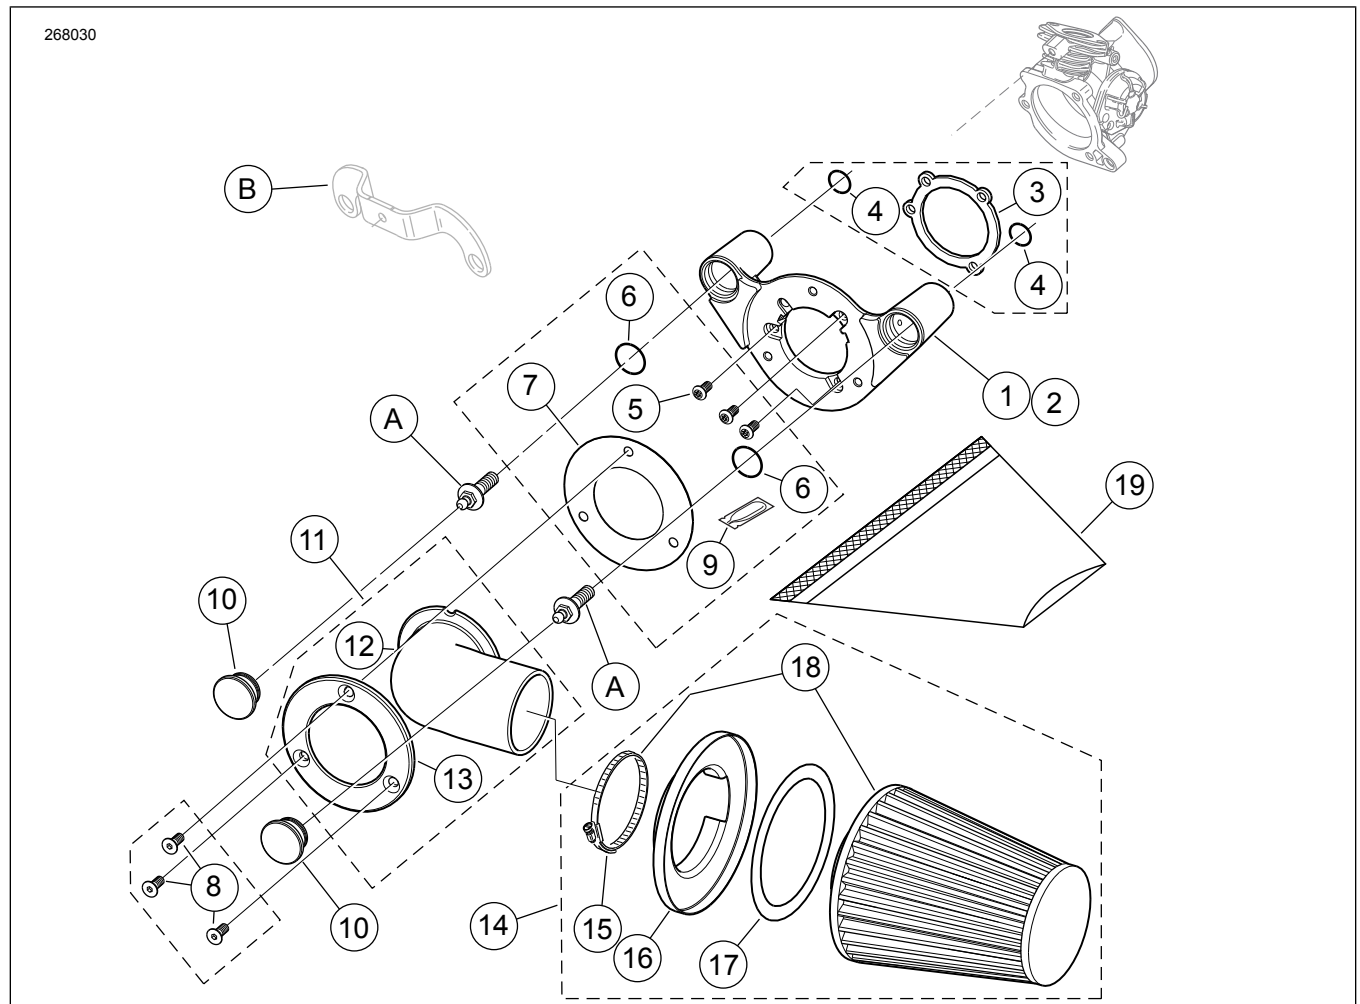

Figure 1. Service Parts: Air Cleaner Kit
See Figure 1 and Table 1.
1. Remove the air cleaner backplate following the instructions in the service manual. Retain the two breather screws (A) removed from the backplate (see Figure 1 ). The remaining parts can be discarded.
2. See Figure 1. Remove and discard induction module bracket (B).